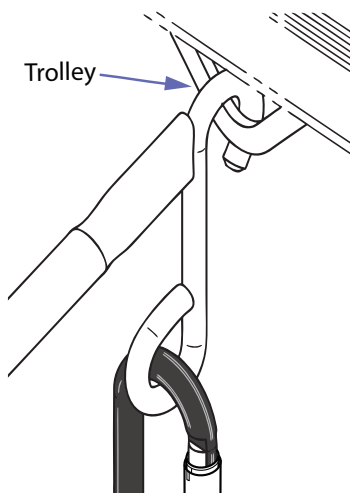

Fig. 6
3. Insert the hook of the Reacher into the track trolley eyelet. See Fig. 6.